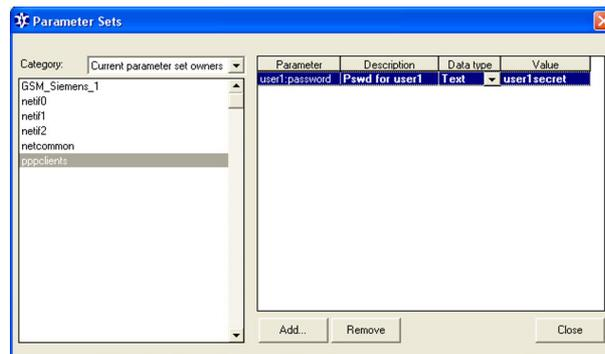

Figure 94 User Credentials for Incoming Connections
4. Enter the user ID and password to be used for the incoming connection in the **Parameter** field. The format to use is <user ID:password>, for example, *user1:password*. See Figure 94 on page 218.